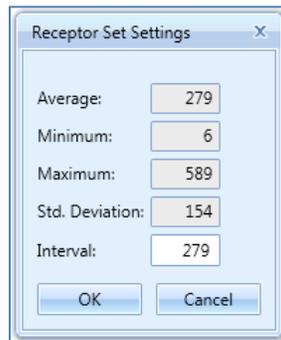

Figure 5-41 Receptor Set Settings Dialog for Number Above Noise Level
- For metric results processed with the Number Above Noise Level option, the *Receptor Set Settings* dialog is displayed (Figure 5-41).